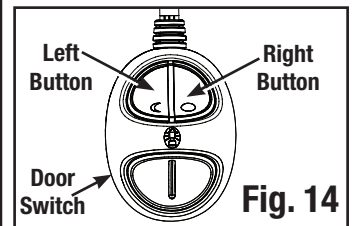

Fig. 14
- Press the left button on the Door Switch for the white light mode. Push once for "ON" and a second time will turn the light "OFF". (Fig. 14)
- Press the right button on the Door Switch for the fan mode. Press once for "HIGH" fan setting, twice for "LOW" fan setting, and a third time will turn the fan "OFF". (Fig. 14)